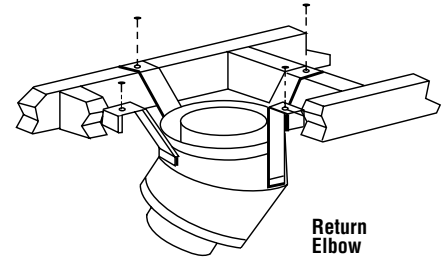

Figure 43
**Step 5.** Secure support straps to framing members by nailing under tension in sheer (Figure 43).